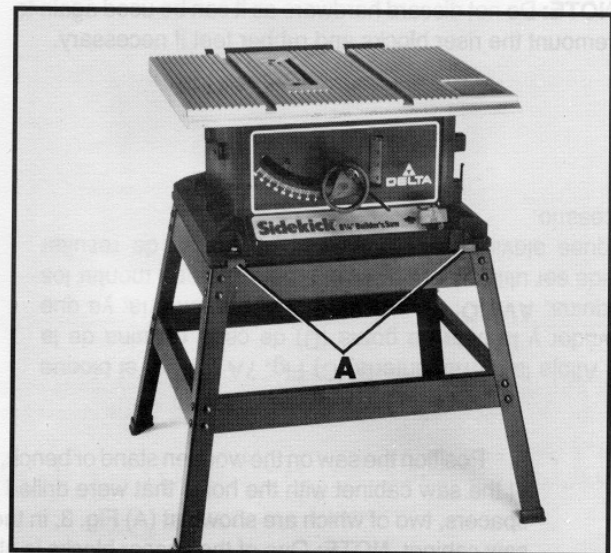
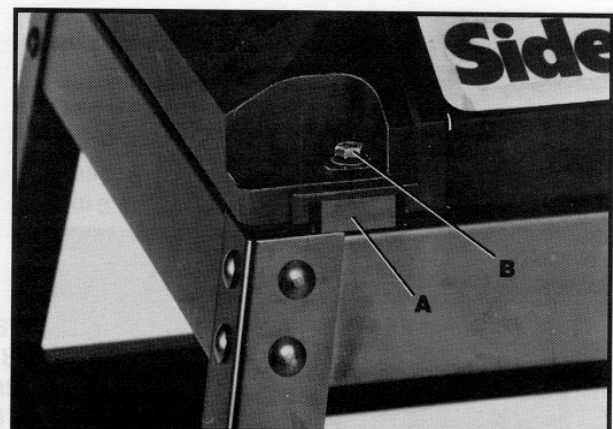

Fig. 5
Fig. 6
2. Position the saw on the stand, as shown in Fig. 5. Line up the holes on the bottom of the saw cabinet with the holes on the top of the stand. **IMPORTANT:** Insert the four spacer blocks, two of which are shown at (A) Fig. 5, in the space provided under the four mounting holes of the saw cabinet and over the four holes in the top of the stand. **NOTE:** One of the spacer blocks is also shown at (A) Fig. 6. Fasten the saw to the stand using the four 1-3/4" long hex head screws, one of which is shown at (B) Fig. 6, eight flat washers and four hex nuts supplied.